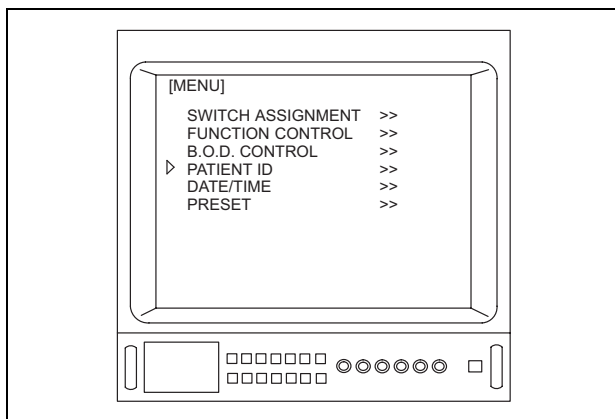

Figure 5.42
2. Depress the menu switches "◀" or "▶", or the "↑/↓/←/→" key on the keyboard to move the arrow "▷" to "PATIENT ID" (see Figure 5.42).
- When using a type A OTV-S7V, "B.O.D. CONTROL" (see Figure 5.42) is not displayed.
- When the OTV-S7H-1D-F08E/L08E/D-L08E is connected to the OTV-S7V, "SWITCH ASSIGNMENT" (see Figure 5.42) is not displayed.
2. Depress the menu switches “” or “”, or the “” key on the keyboard to move the arrow “” to “PATIENT ID” (see Figure 5.42).